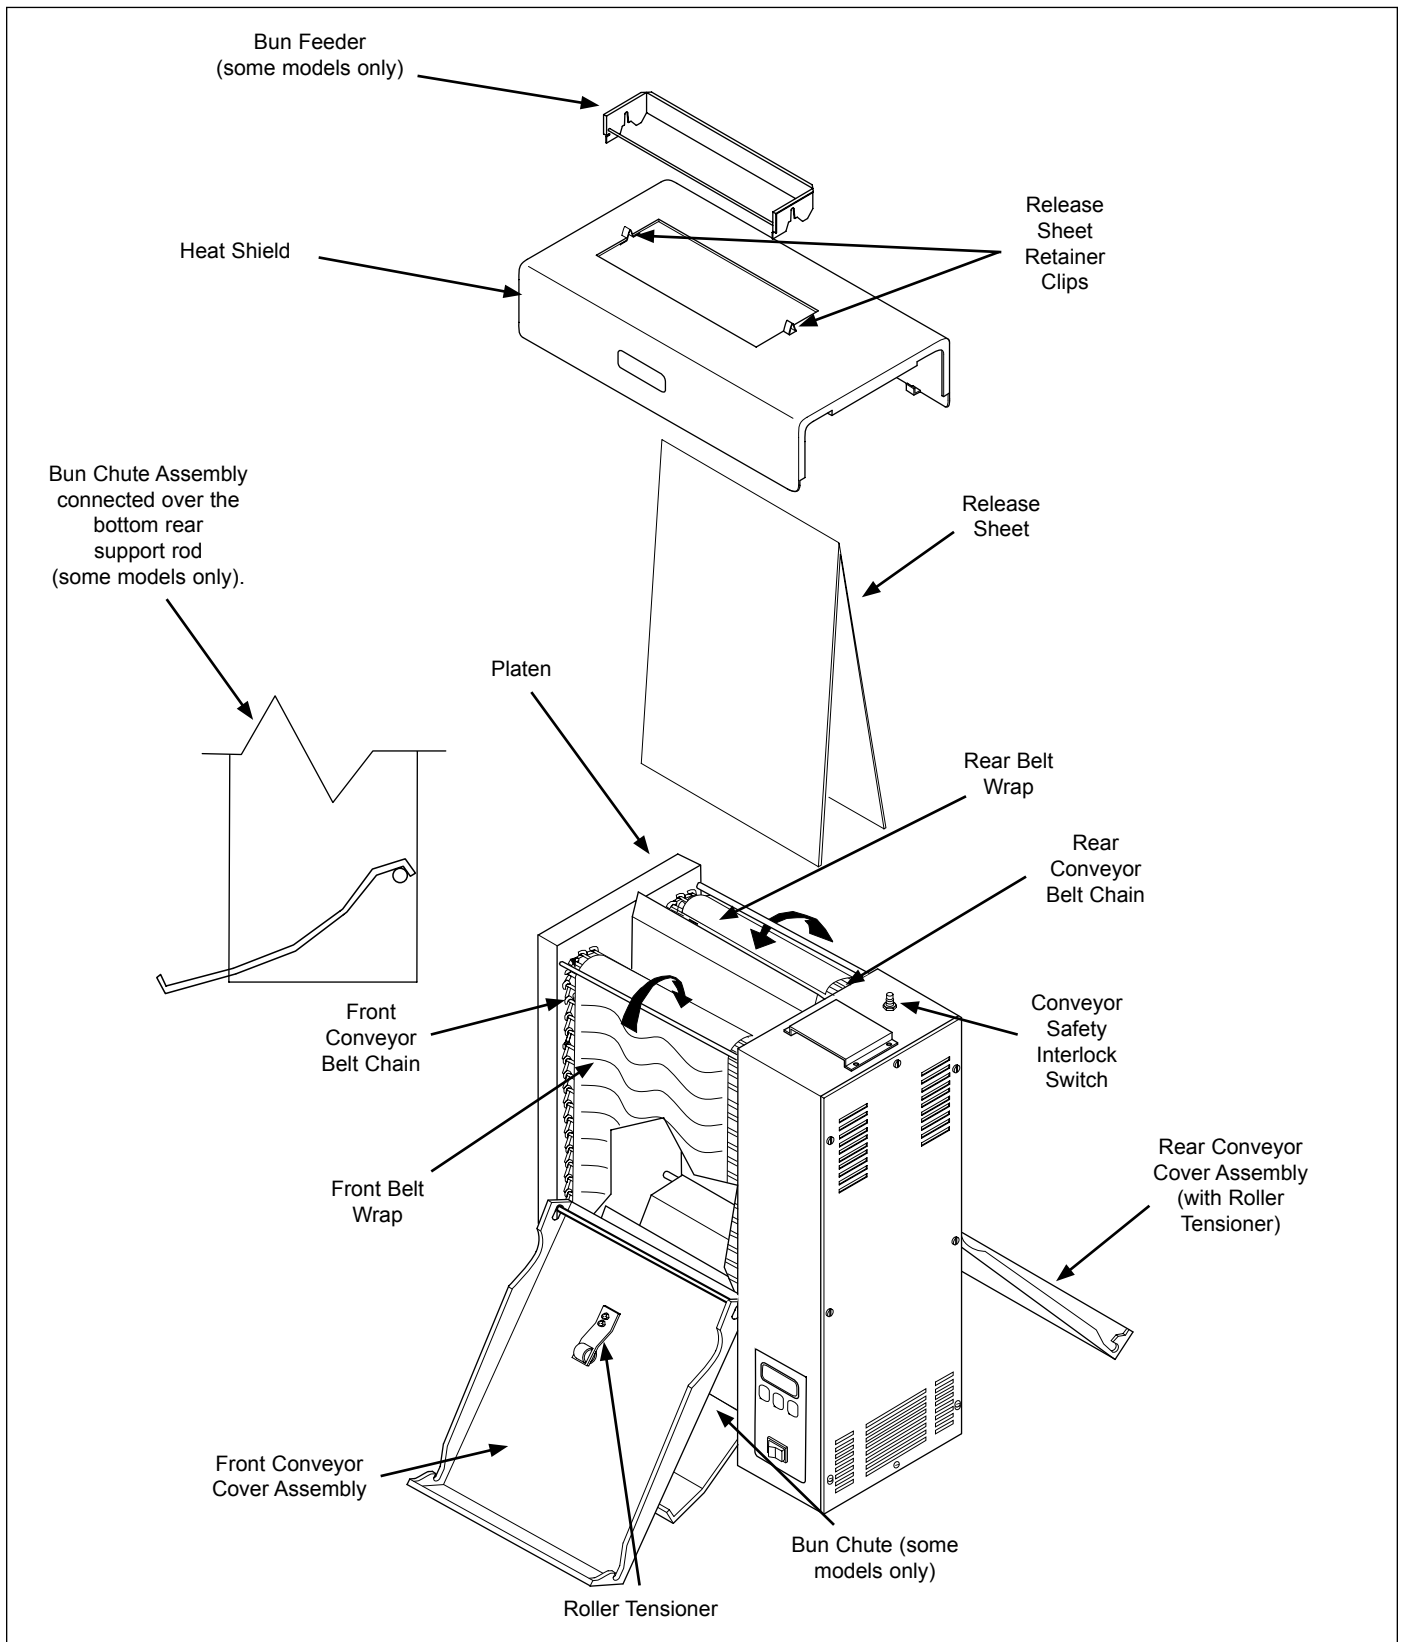

Figure 1. VCT-2000 Toaster
**NOTE: The factory has pre-installed a Release Sheet over the Platen (Figure 1). Verify that it is properly in place before proceeding.**
Remove Bun Chute and Bun Feeder from the box and install (Figure 1).
**IMPORTANT: Make sure Heat Shield is activating the Conveyor Safety Interlock Switch (Figure 1). The conveyors will not rotate unless the Heat Shield is in place and Conveyor Safety Interlock Switch is activated.**
2. Put on heat-resistant gloves and remove the Butter Wheel (if equipped), Pan, and Heat Shield (Figure 1).